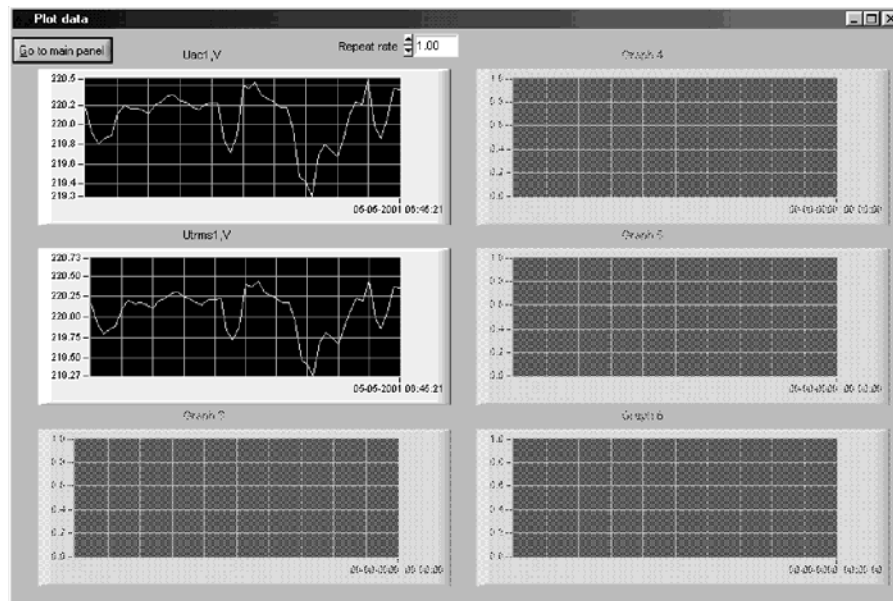

Fig. 13
If you have defined the measuring values to be plotted, then the panel with six strip charts will appear after starting of the acquisition (Fig. 13). The X-axis represents time in continuous mode and number of measurements in the step mode. You can switch to main window by means of the button “Go to main panel”. Using menu point “View->View plot/Hide plot” or the buttons “View plot” (13) and “Hide plot” (14) you can display or hide the panel with the plots.